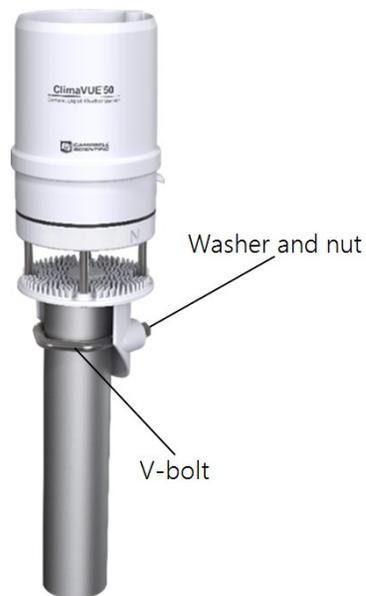

FIGURE 7-2. ClimaVUE 50 mounted to a pole with V-bolt and nuts
2. Loosely mount the ClimaVUE 50 to the tripod mast, CM300-series pole, or mounting tube by using the V-bolt, washers, and nuts (FIGURE 7-2 (p. 14)).